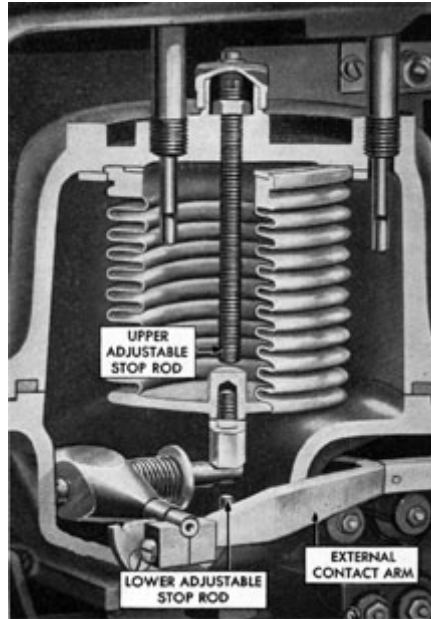

Figure 5-29. Adjustable stop rods installed.
**5K9. Setting the lower adjustable stop rod.** (See Figures 5-29, 5-30, and 5-31.)